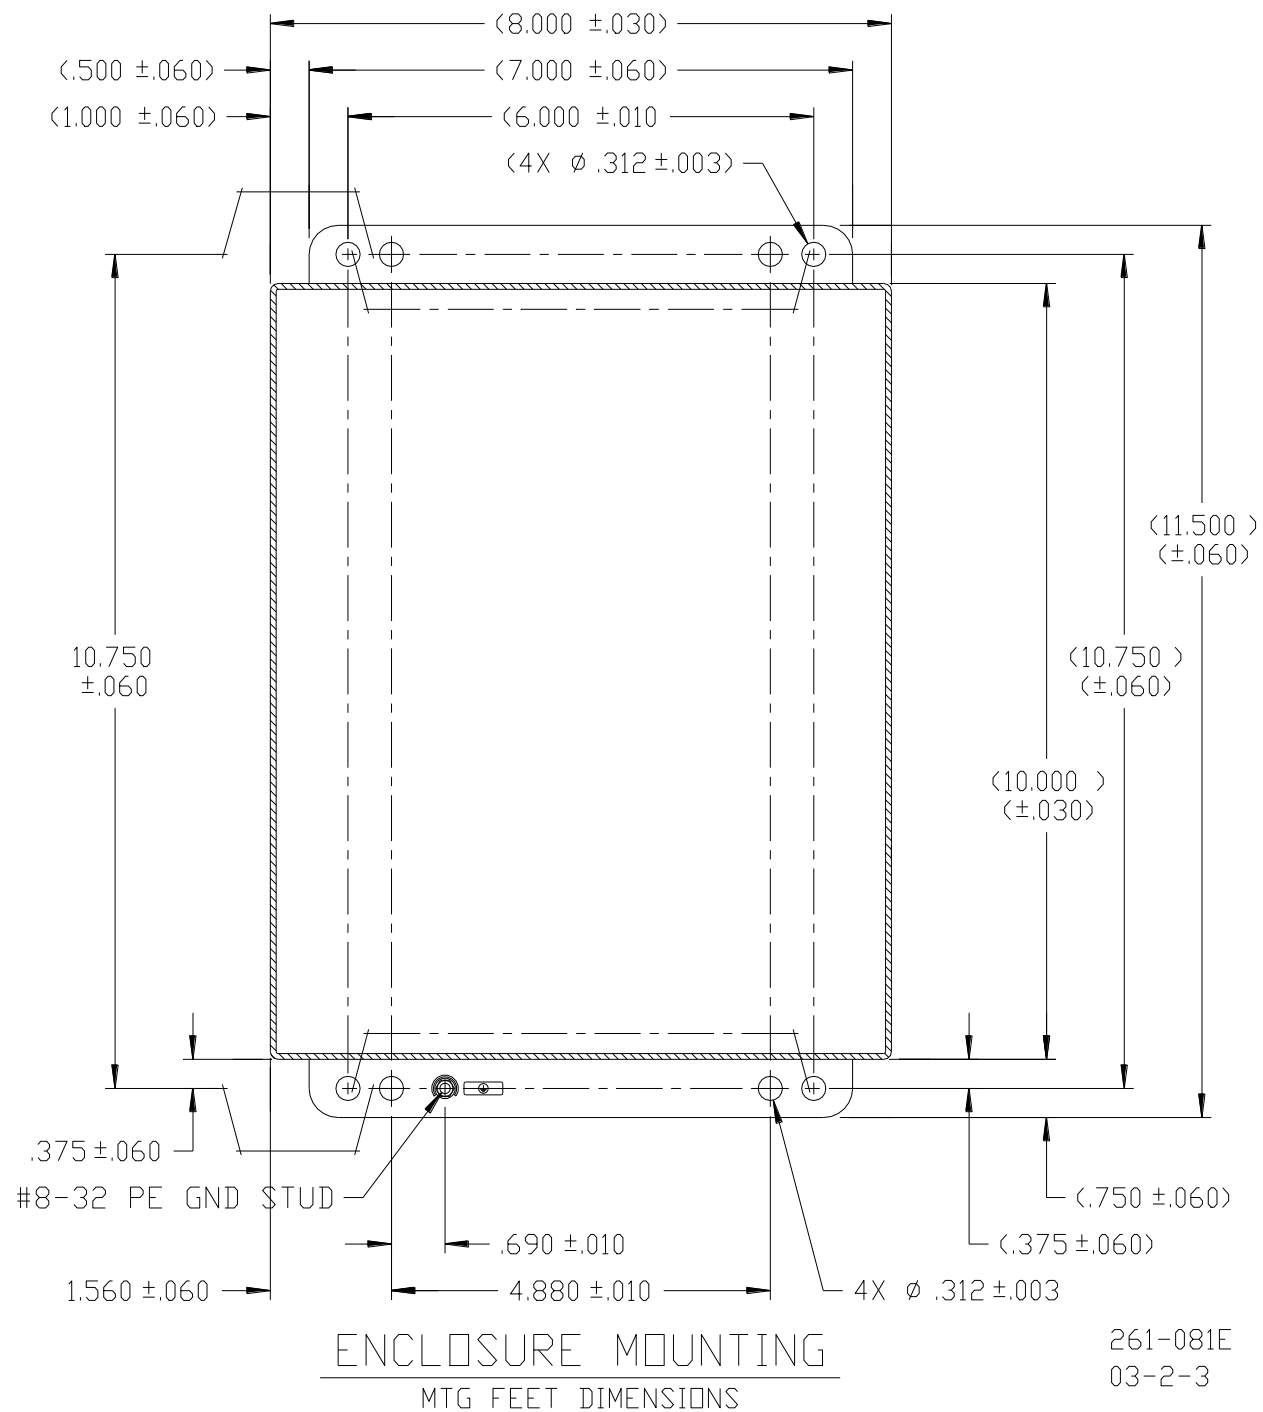

Figure 1-3. Enclosure Mounting
5. Make sure that a safety ground connection is made through the power connector or through the terminal provided on the enclosure (Figure 1-3). Bonding connections are provided on the enclosure, and it is intended that the installer do the bonding in accordance with paragraph 501.16a of the NEC (USA).